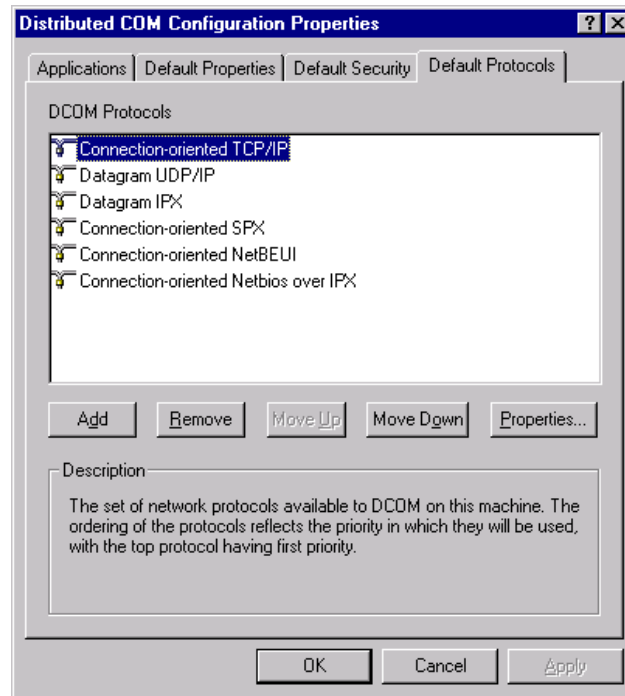

Figure 2-4. DCOM configuration Example
3. Example: c:> ping 190.14.98.173. See Figure 2-4.